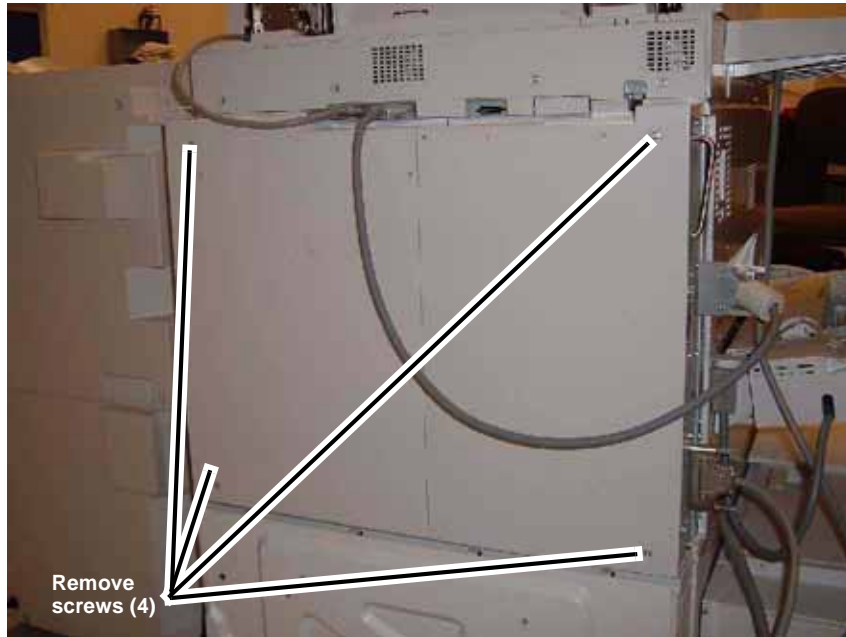

Figure 1 Removing the Rear Upper Cover
1. Remove the Rear Upper Cover (Figure 1).